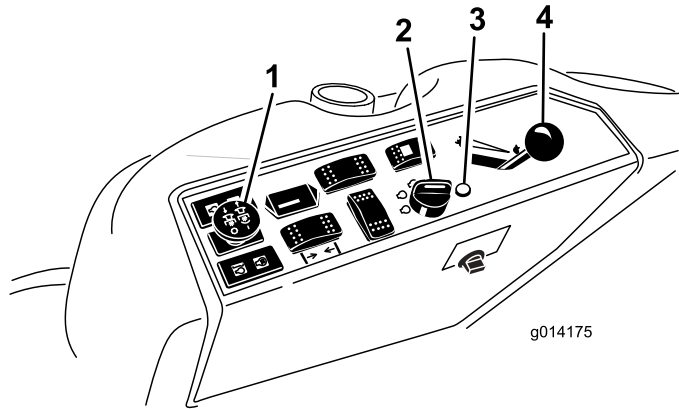

Figure 21
4. Move the power-takeoff (PTO) switch to the OFF position (Figure 21).
5. Move the throttle lever midway between the FAST and SLOW positions (Figure 21).